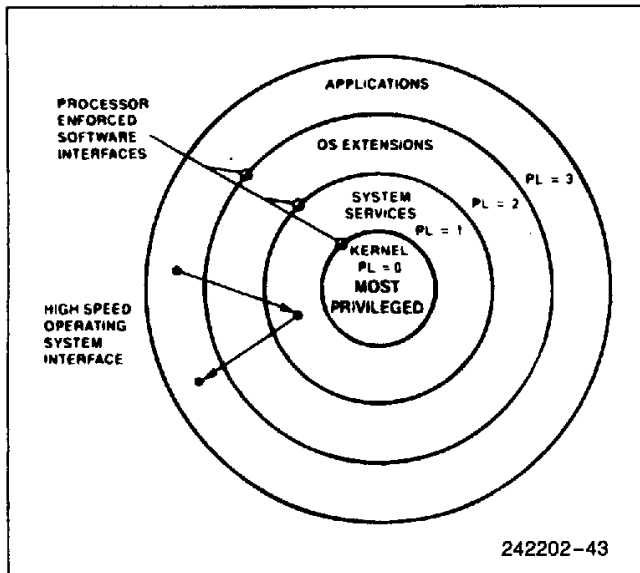

Figure 6-13. Four-Level Hierarchical Protection
The four-level hierarchical privilege system is illustrated in Figure 6-13. It is an extension of the user/supervisor privilege mode commonly used by mini-computers and, in fact, the user/supervisor mode is fully supported by the Intel486 processor paging mechanism. The privilege levels (PL) are numbered 0 through 3. Level 0 is the most privileged or trusted level.